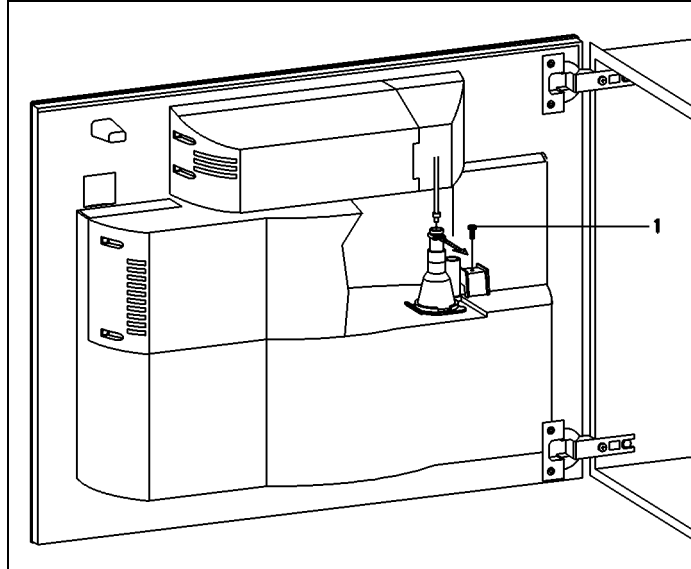

Figure 5-5: Cappuccinatore and Bracket Removal
4. Release the Teflon hose from its connection and pull it out. See Figure 5-5.
5. Remove the screws securing the bracket (Figure 5-5, Item 1).